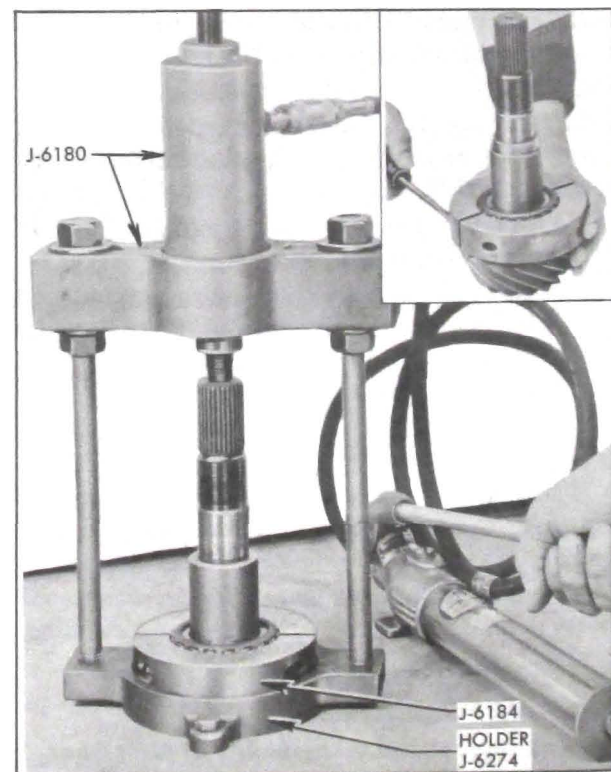

Figure 6-17—Removing Rear Pinion Bearing
5. If rear pinion bearing is to be replaced or pinion depth setting is to be changed, remove rear bearing from pinion shaft using Remover J-6184 and Holder J-6274 in a press or in a set-up using Ram and Yoke Assembly J-6180 as shown in figure 6-17.